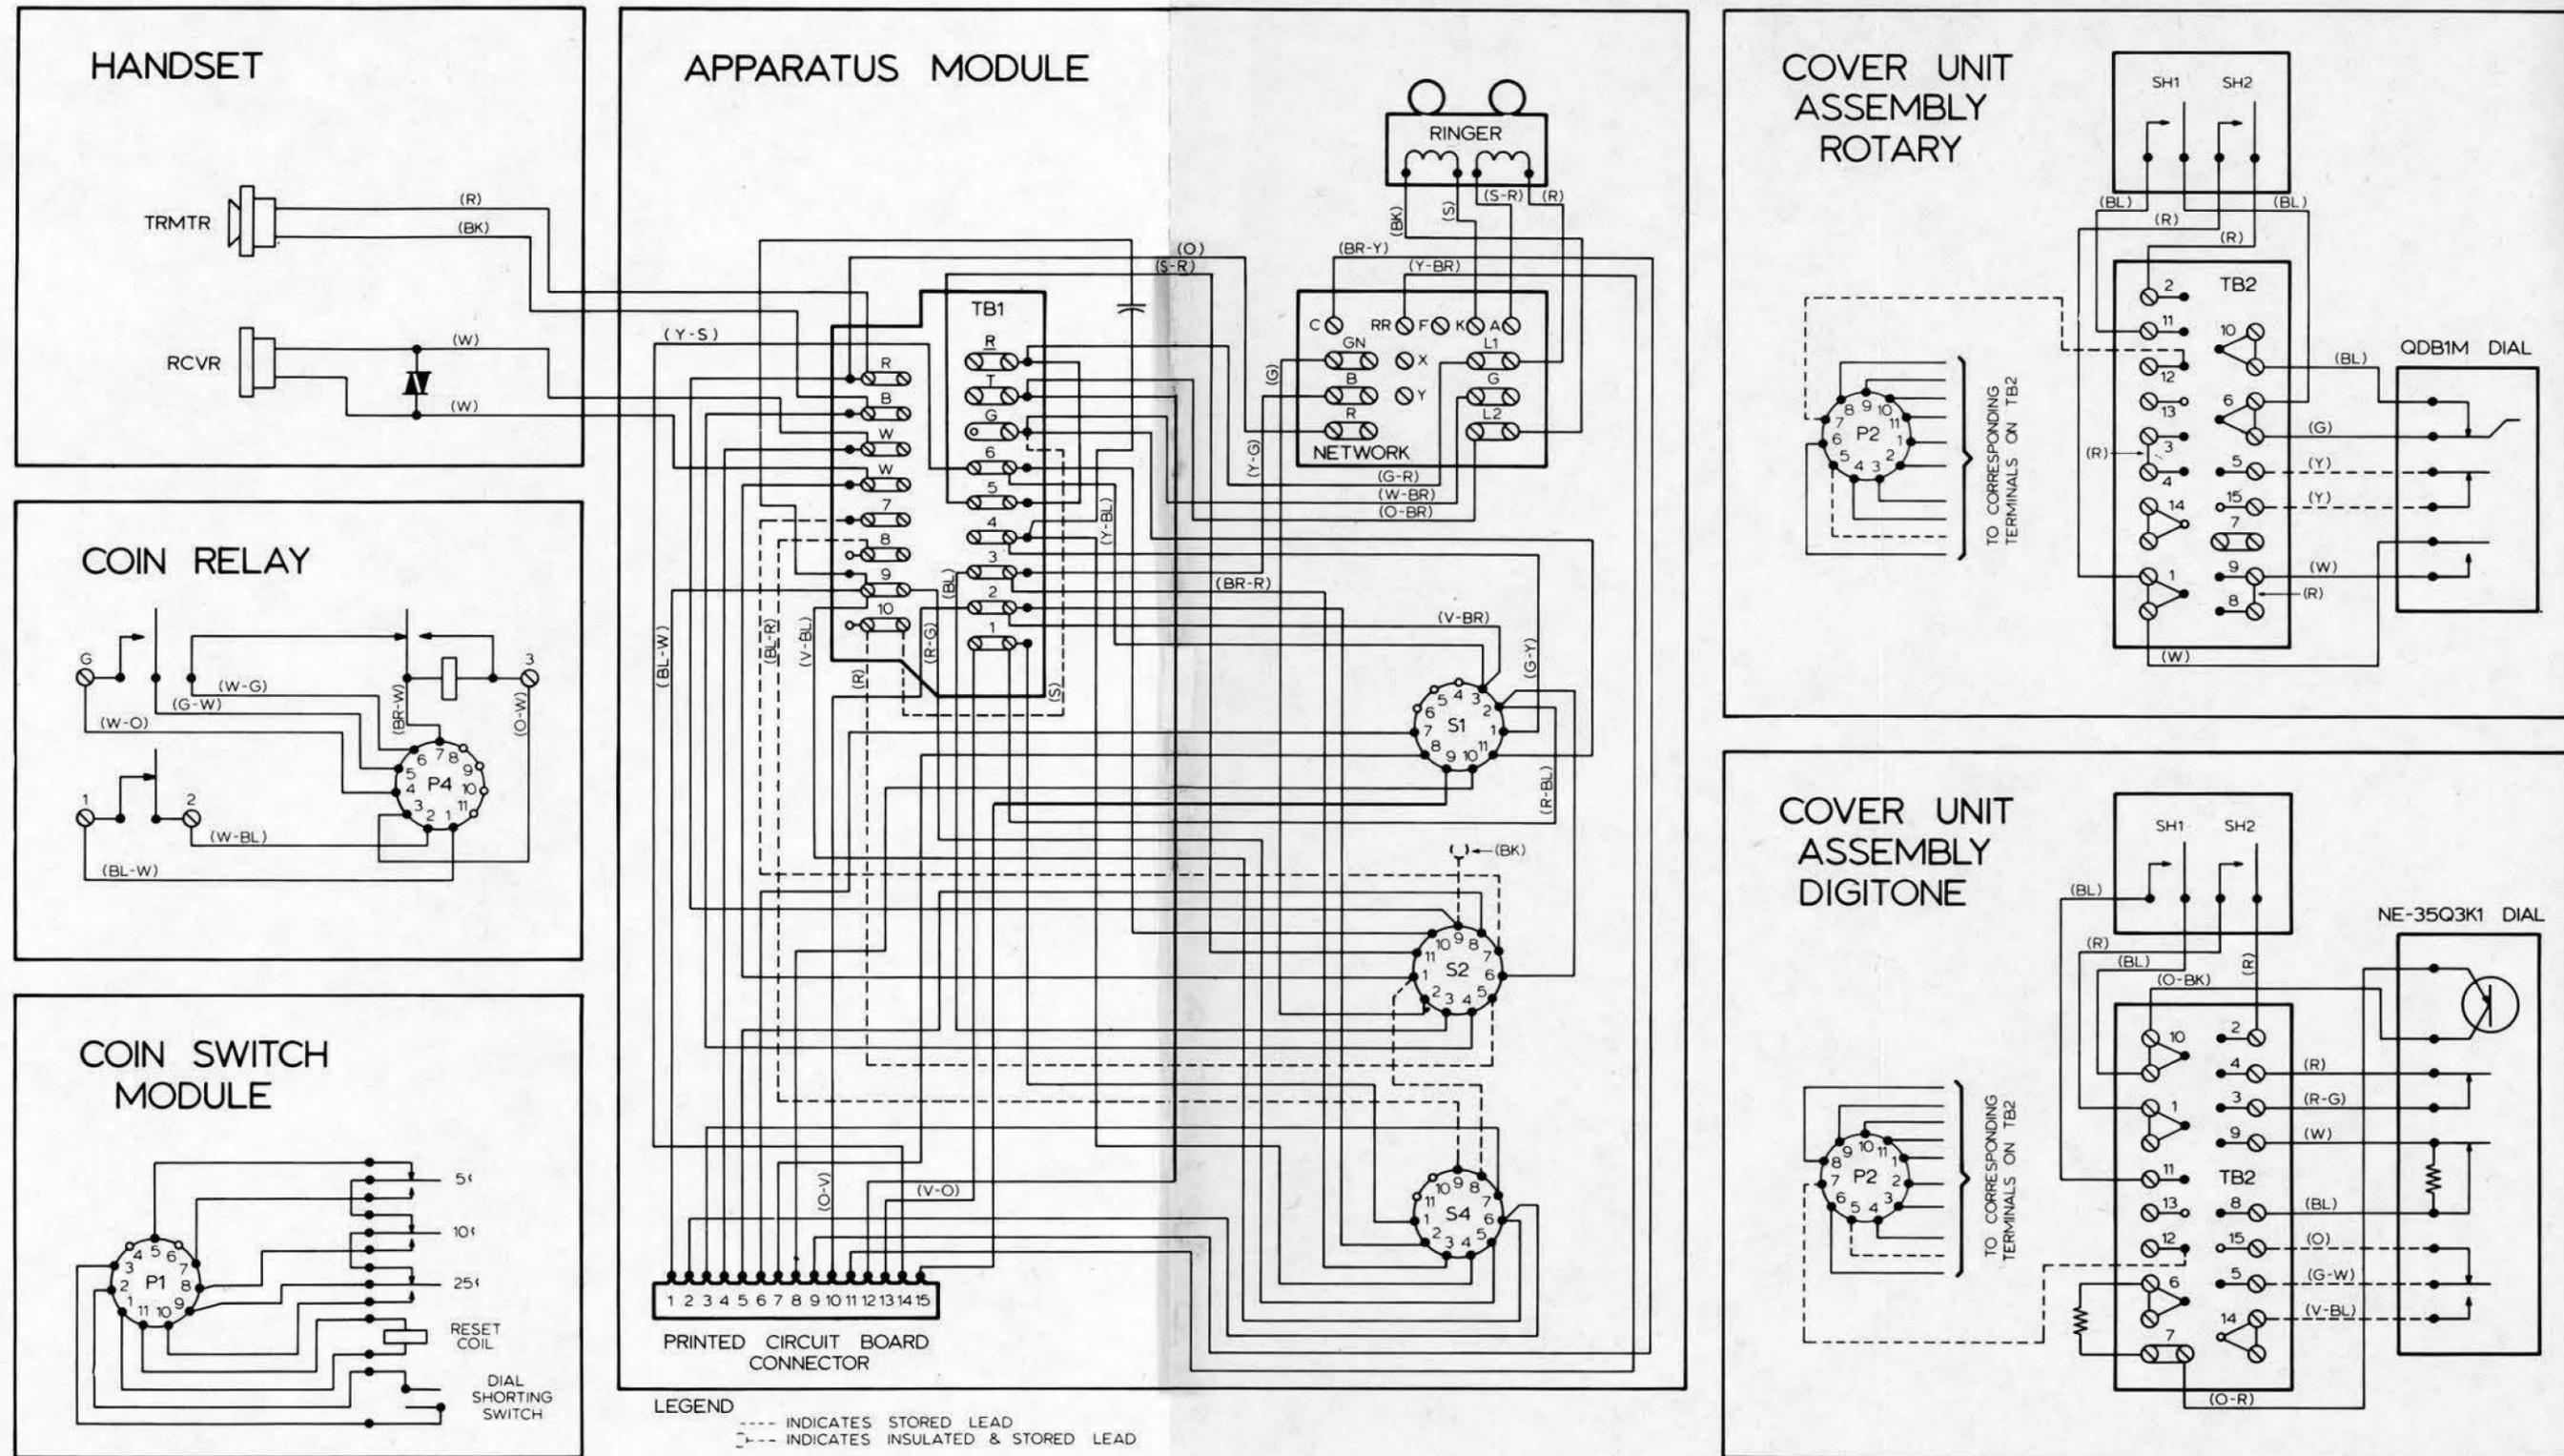

Fig. 2 - Connection Diagram - QSD400A1 and QSD2400A1 Coin Telephone Sets
2.05 The wiring connections for the QSD400A1 and QSD2400A1 type coin telephone sets are given in Fig. 2.